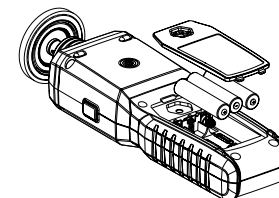

Figure. 9
- The product is powered by three 1.5V AAA batteries. Please refer to Figure 9 to install or replace the batteries.